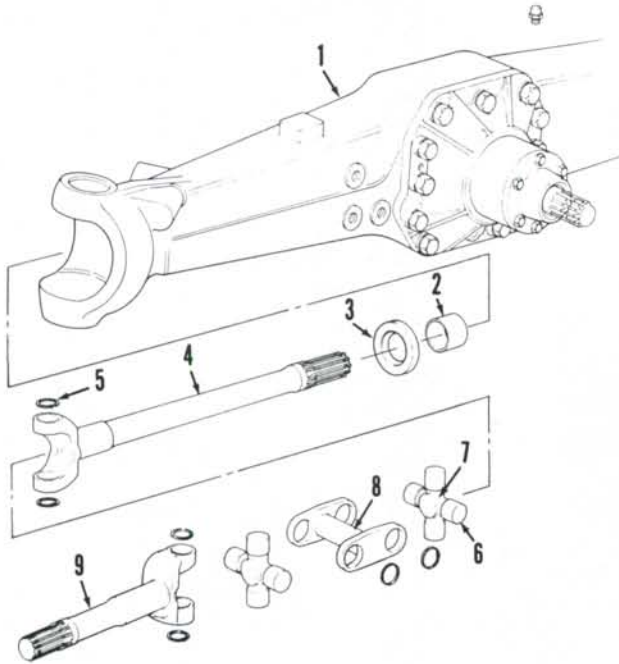

Fig. 34—Exploded view of typical axle shafts used on Carraro 709/19 axle.
40. AXLE SHAFTS. Axle half-shafts (4 and 9—Fig. 34), oil seal (3) and bushing (2) can be renewed with axle housing in place. Refer to paragraph 37 for removal of final drive and swivel housing. Pull axle shaft from housing. Remove oil seal and bushing using suitable slide hammer puller.